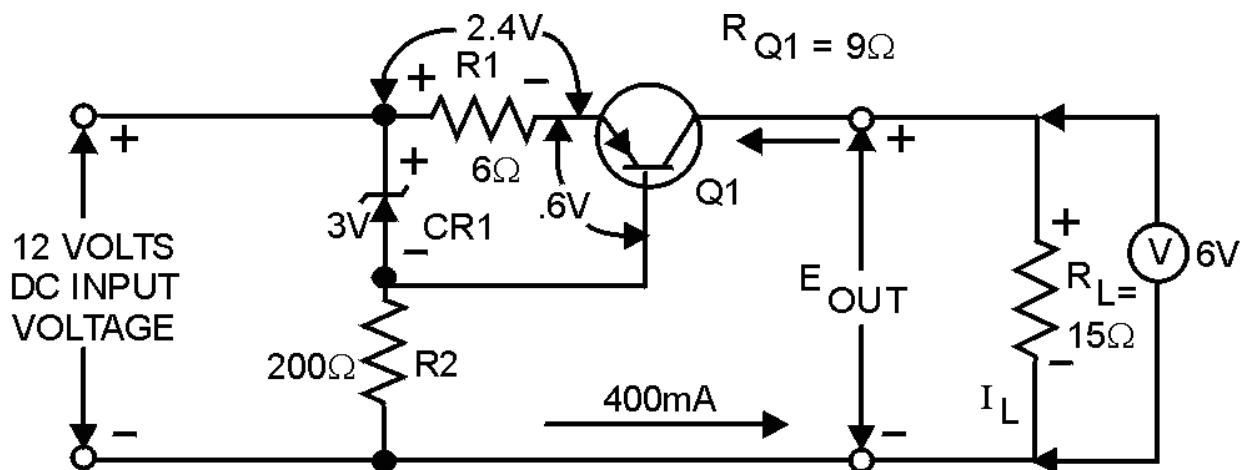

Figure 4-42.—Current regulator (with circuit values).
The purpose of a current regulator is to provide a constant current regardless of changes in the input voltage or load current. The schematic shown in figure 4-42 is that of a circuit designed to provide a constant current of 400 milliamperes. Voltmeters are shown in the schematic to emphasize the voltage drops across specific components. These voltages will help you understand how the current regulator operates. The voltage drop across the base-emitter junction of Q1 is 0.6 volt. This voltage is the difference between the Zener voltage and the voltage drop across R1. The 0.6-volt forward bias of Q1 permits proper operation of the transistor. The output voltage across RL is 6 volts as shown by the voltmeter. With a regulated current output of 400 milliamperes, the transistor resistance (RQ1) is 9 ohms. This can be proved by using Ohm's law and the values shown on the schematic. In this case, current (I) is equal to the voltage drop (E) divided by the resistance (R). Therefore: 12 volts divided by 30 ohms equals 0.4 ampere, or 400 milliamperes.